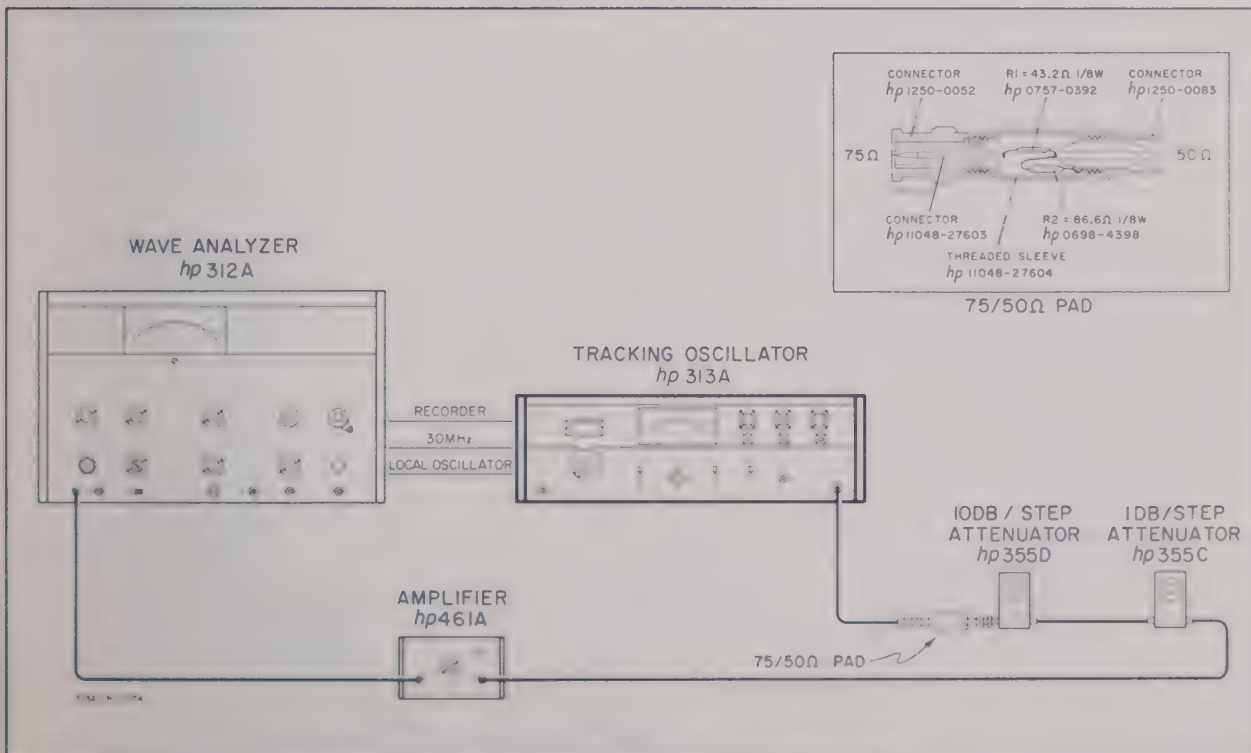

Figure 5-3. Attenuator Accuracy Test Setup
- a. Connect the 313A, 312A, 461A, and substitution attenuators as shown in Figure 5-3.